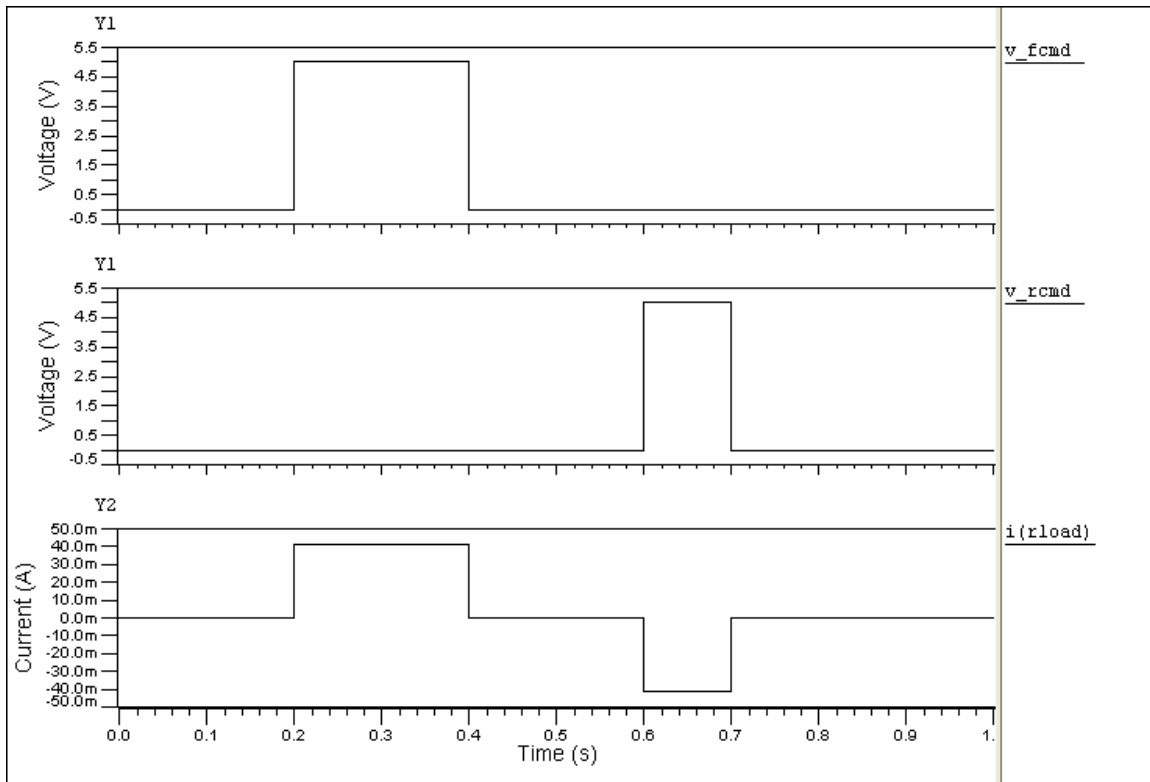

Figure 5 - Simulation results with load current
8. Upon completion, the simulation results will again be loaded into the viewer. Select the signal **i(rload)** and plot into the original graph window, replacing the **vl_1** signal as shown in Figure 5 below: